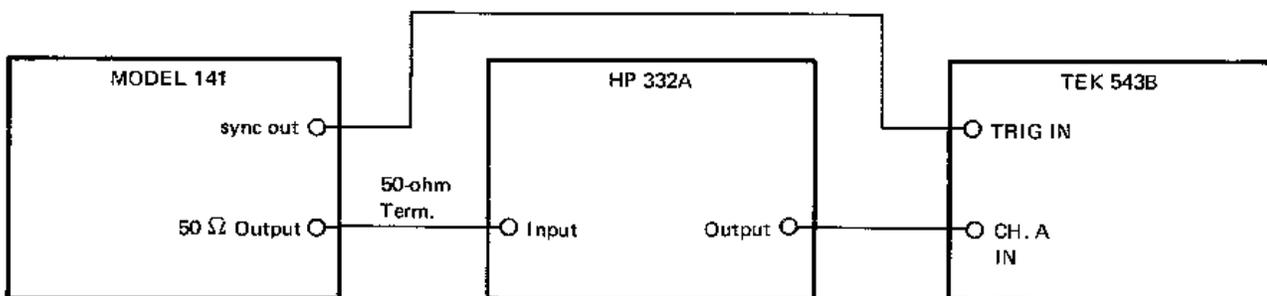

Figure 4-2. Distortion analysis test setup.
1. Connect the Model 141 and oscilloscope to the distortion analyzer as shown in Figure 4-2.
9. Reconnect the distortion analyzer as shown in Figure 4-2. Reset the *freq Hz* dial to .5.